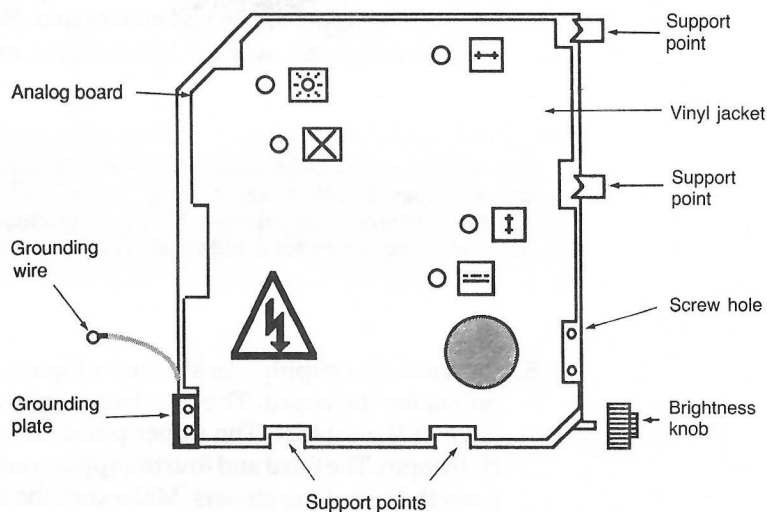

Figure 7-5 Analog board mounting details.
9. Unscrew the ground wire. As shown in Figure 7-5, the ground wire extends from LF2 to the back of the frame.
10. Unscrew the analog board. As shown in Figure 7-5, there are two screws in the lower rear corner of the board, and one screw on the right side of the board. All three screws hold the board to the side of the frame.
1. Install the brightness control knob. As shown in Figure 7-5, it fits over the brightness control shaft in the lower front corner of the board.
3. Install the grounding plate. As shown in Figure 7-5, it covers the two screw holes at the lower back corner of the board. If the grounding plate is missing, or if you never had one (because someone else lost it), fabricate a new one from aluminum step flashing or thin sheet metal. Cut up the top of a coffee can with tin snips if necessary. The approximate size is indicated on the board.
5. Remount the supply. As shown in Figure 7-5, there are four support points for the board. The first two support points are along the front edge of the cabinet. The upper point looks like an upside-down, toy clothespin. The third and fourth support points are metal tabs extending from the top of the chassis. Make sure the board is locked into all four support points, then fasten the board using three, gray-metal Phillips head screws and lock washers. Two screws mount through the grounding plate at the lower left corner of the board. One screw mounts part way up the right side of the board.